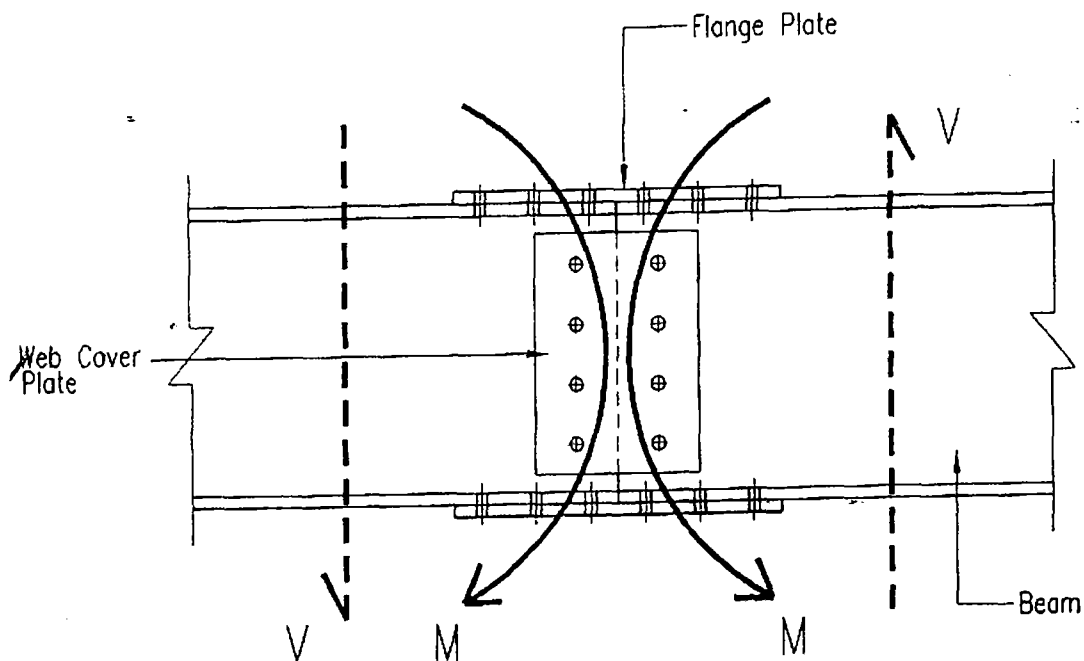

Figure 2 / Rajah 2 : Beam Splice
2. (a) Figure 2 shows a typical splice connection of a simply supported long span beam. State **ALL** items that need to be checked with respect to the corresponding forces and the assumption to perform such design.